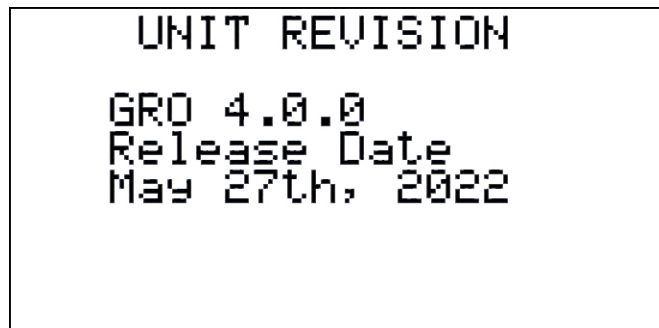

Figure 105
2.3.4 Unit Revision (Figures 105)